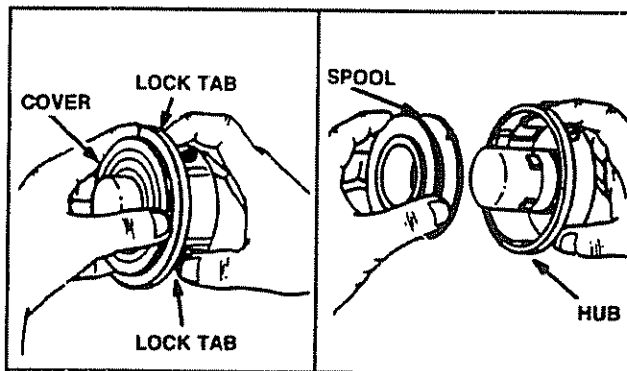

Figure 22
INSTALLING PRE-WOUND SPOOL (Fig. 22, 23, 24, 25 & 26)
- Hold the semi-automatic head as shown. Press the two lock tabs and remove cover. Figure 22.